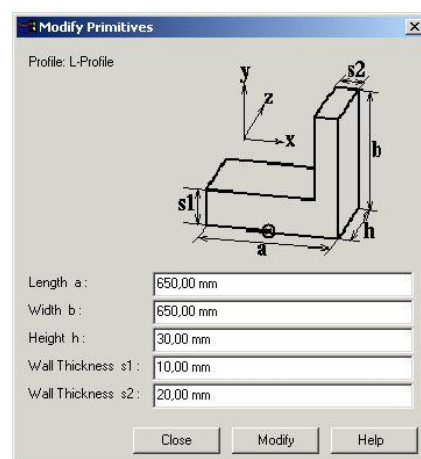

Figure 64: Example – Change Parameter Dialog – Primitive (Modify Primitives)
- 6) Click **Close** to save the changes. *Please refer to the Figure 64.*